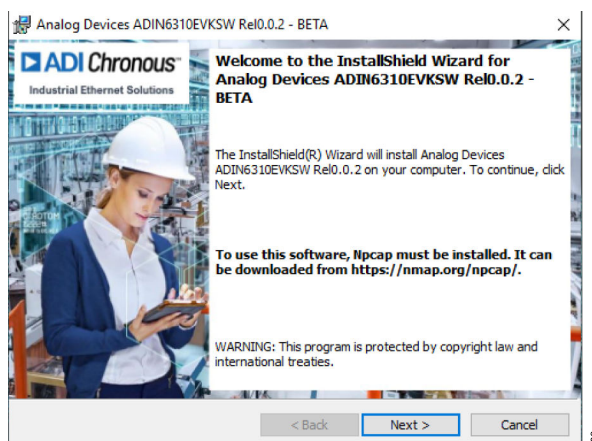

Figure 3. Welcome Message
4. The welcome window appears (see Figure 3), with prompts that user must separately install Npcap, click **Next**.